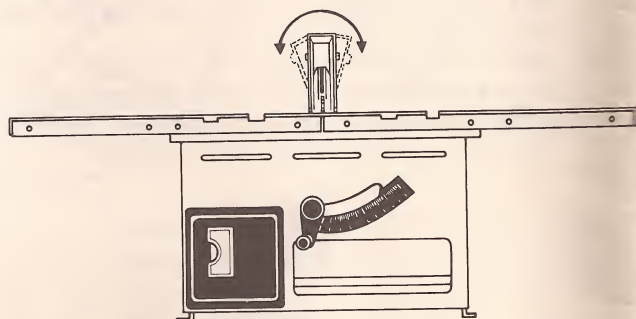

Figure 28
A. Adjust "Lean" first. (See figure 28.)